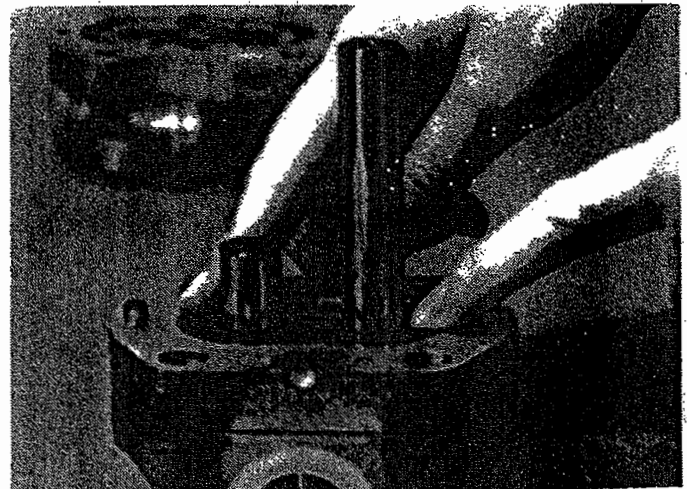

Fig. 15
18. The front thrust plate (Item 9) has a window cut in it just slightly off the center line between the shaft bores. With bronze side of thrust plate toward gear faces and window to the discharge side, place the plate over shafts and down against gear faces. (Fig. 15)